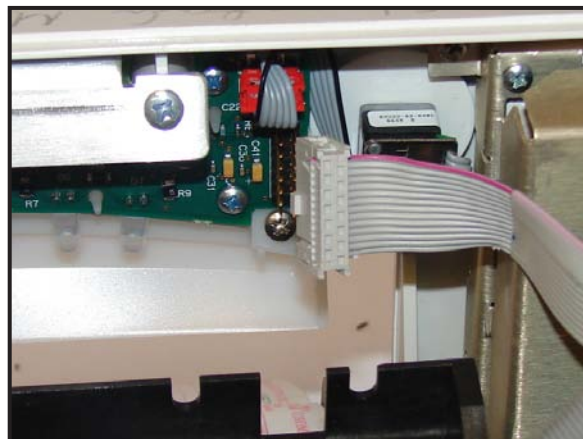

Figure 6-22
8. Disconnect the Keypad-to-Volume ribbon cable from the connector on the keypad board (See Figure 6-22).
- a. Disconnect the Keypad-to-Volume ribbon cable from the connector on the keypad board (See Figure 6-22).